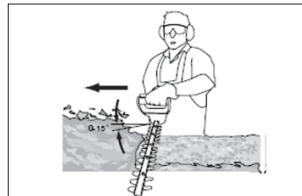

Fig.2
5. After cutting the sides proceed to the top. Try to keep the cutting device angled at approximately 15° to the cutting surface (Fig. 2).